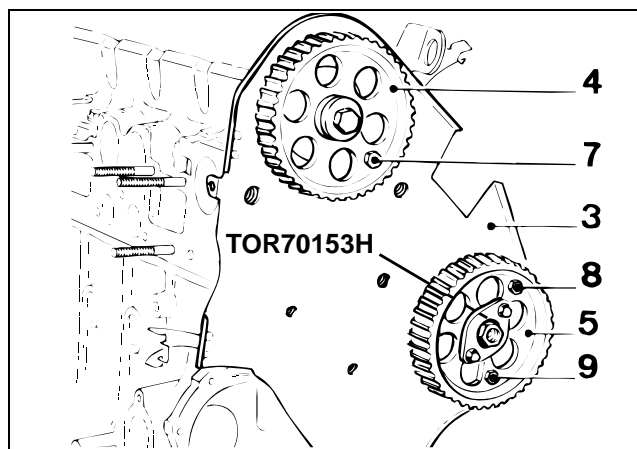

Figure 58a
2. Use injector pump gear puller TOR70153H, to remove injector pump gear (Fig. 58a, Item 5).